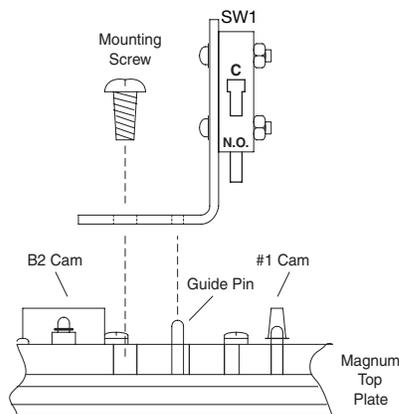

Figure 1
1. Fasten the switch-mounting bracket to the Magnum Cv control valve using the thread-forming mounting screw (see Figure 1). The shorter, clipped edge of the bracket should be positioned over the guide pin and screw hole located behind the B1/B2 cam.
2. Attach the switches to the bracket using the machine screws, nuts and washers provided. The screws should be inserted so that the washer and nuts are on the backside of the switch SW1. When mounting a single switch, the switch is mounted to the back of the bracket directly in front of the number one cam (see Figure 1). When a triple switch is mounted, one switch is located on the back of the bracket and two are located on the front (see Figure 2). For multiple switches it is easiest to slide two switches onto the screws and then insert the screws through the bracket. The final switch is then added to the screws and fastened with the washers and nuts (see Figure 2). Switches are mounted with the switch arm adjacent to the breakaway cams and the electrical contacts directed away from the camshaft (see Figure 3).